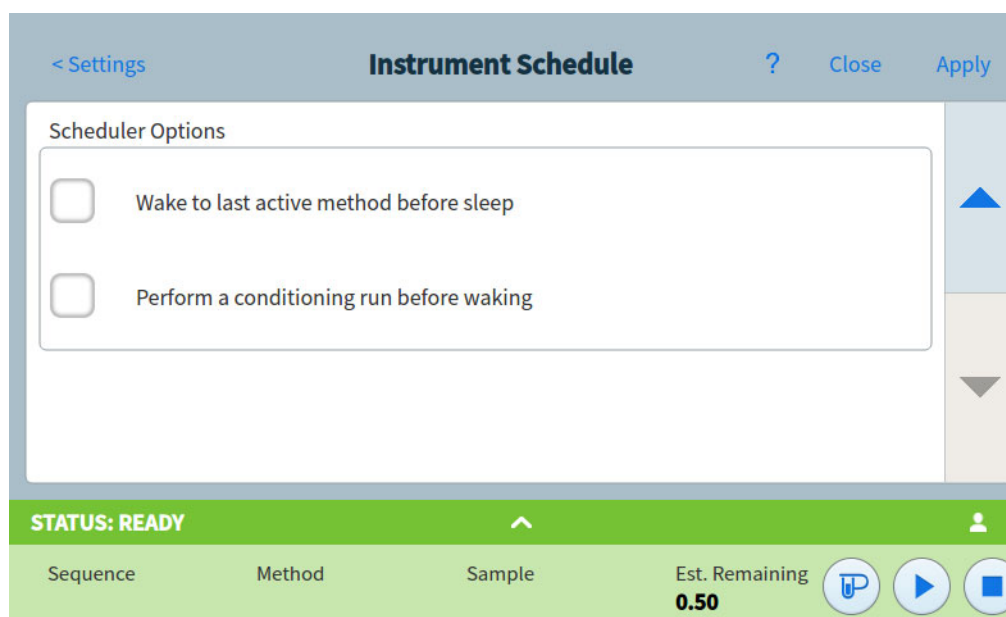

Figure 76. Scheduler Options area
- 3 Scroll to the Scheduler Options area. See **Figure 76**.